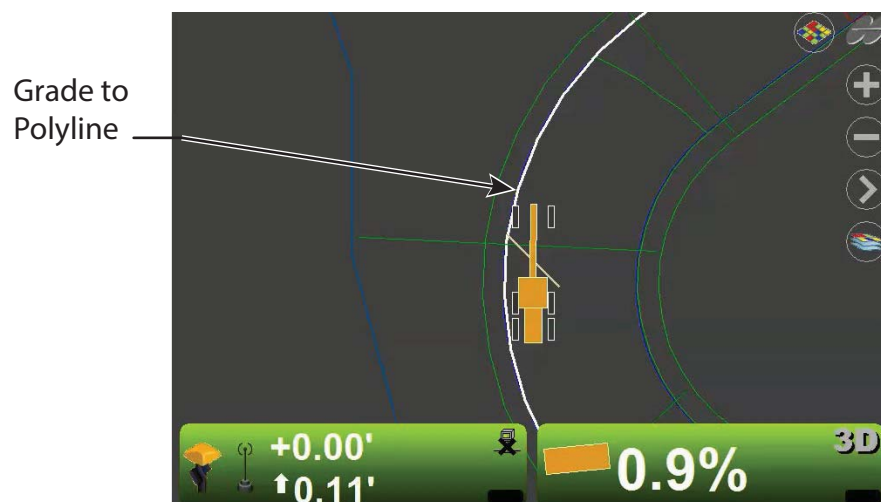

Figure 117: Graphical Cross Lines Display Along the Polyline
3. Tap **Extend grade**, enter a value, and tap **OK**. Graphical cross lines display along the polyline (Figure 117).